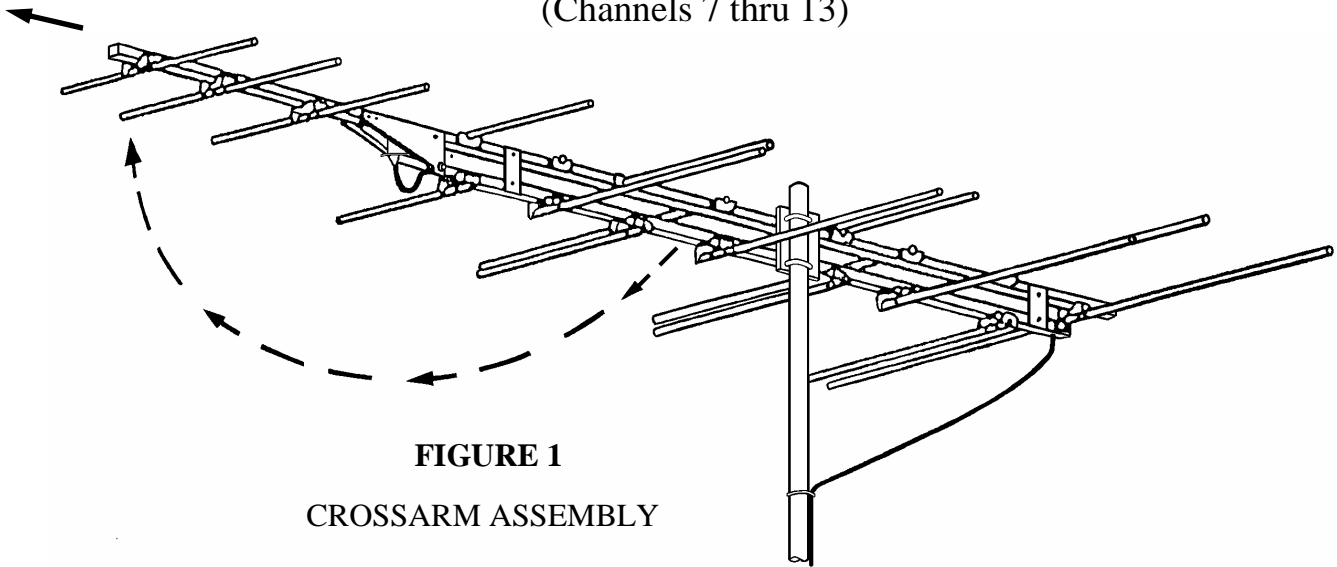

FIGURE 1
- Swing the front of the crossarm into position and secure it to the main upper crossarm with the machine screw, lock washer and hex nut supplied; wrench tighten both securing hex nuts. (see Figure 1)
- Assemble the elements onto the crossarms in their respective positions as denoted by their length. Note the relationship of the elements to the upper and lower crossarms; the elements must be positioned as shown in Figure 1, Figure 2 and Table 1. **DO NOT** overtighten the hex bolts securing the elements.